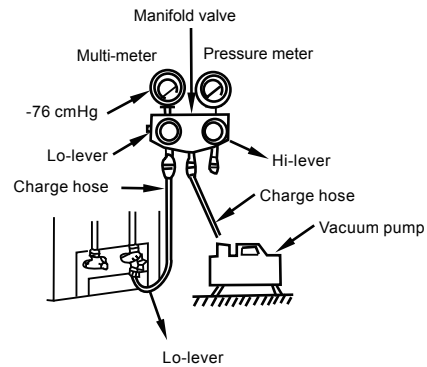

Fig.7-4
- Expel the air with a vacuum pump (Refer to Fig.7-4) (Please refer to its manual for how to use the manifold valve)